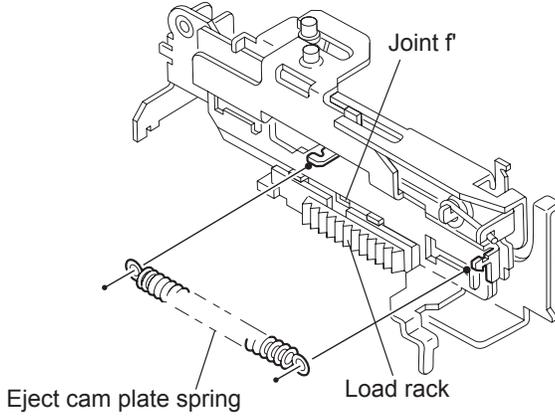

Fig.33
**(See Fig.33 to 37)**
- (1) Remove the eject cam plate spring.
- (2) Push the joint **f'** through the slot to remove the load rack downward.
- (3) Move the eject cam limiter in the direction of the arrow to release it from the boss **g'** of the side bracket assembly and from the two joints **h'**.
- (4) Move the eject cam plate in the direction of the arrow to release the joint **i'**.